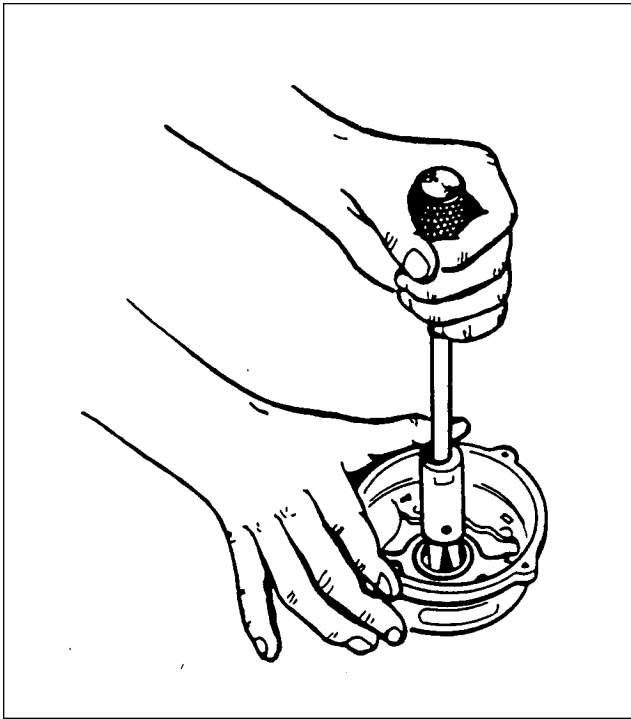

Figure 24-38. Slip Ring End Bearing Assembly
5. Install slip ring end bearing and oil seal. Make sure lip of oil seal is toward bearing. Stake oil seal in place. Correct assembly of bearing, seal, inner race, and spacer is shown in figure 24-38.